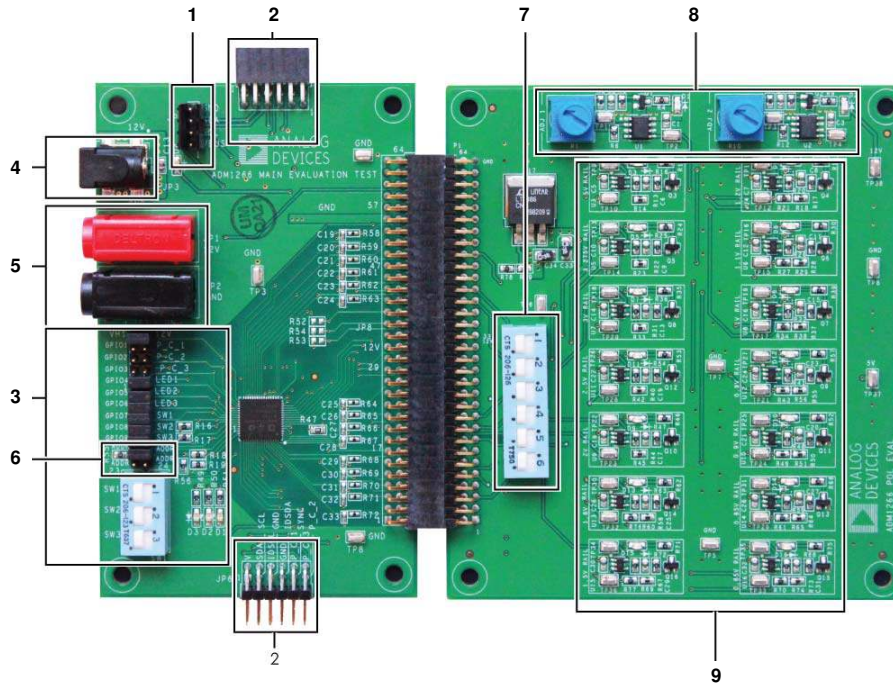

Figure 2. Evaluation Board Components
See Table 1 for descriptions of the evaluation board components shown in Figure 2.
Set Switch SW4 as shown in Figure 2 for single-ended sensing. If the switches are kept to the right side position, the corresponding voltage is differentially sensed. Differential sensing is only available for Regulator 4, Regulator 6, Regulator 8, Regulator 10, Regulator 12, and Regulator 14. When a voltage is differentially sensed, the voltage sensing for the corresponding odd numbered regulator is disabled. For example, if differential sensing is enabled on Regulator 4, then the voltage of Regulator 5 is not sensed.
3. Confirm that all the switches on the main board and point of load (POL) board are set as shown in Figure 2.